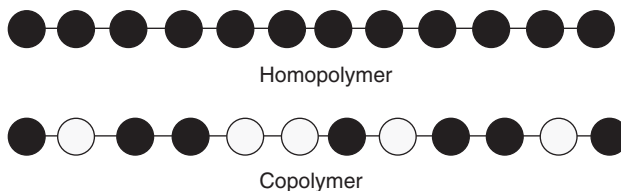

Figure 3 Homopolymer and copolymer.
8. **Homopolymers and copolymers:** Polymers formed from the same type of monomers are called homopolymers; for example, polyethylene formed by ethene (ethylene) monomers. If two or more different repeating units (monomers) make up the polymer, it is known as a copolymer, for example, styrene-acrylonitrile (SAN) copolymer, styrene-butadiene (SBR) copolymer, acrylonitrile-butadiene-styrene (ABS) copolymer (Figure 3).